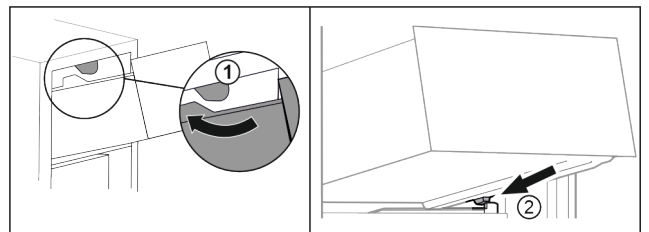

Fig. 132
- ▶ Guide drawer around the upper stoppers. Fig. 132 (1)
- ▶ Place drawer at an angle behind the lower stoppers onto moulded rib. Fig. 132 (2)